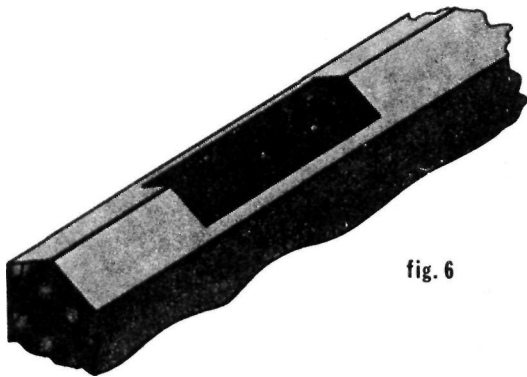

fig. 6
Step 5. Cut out the 1/16" triangular strips from the VEE'd edge on each side of the hinge web. (Fig. 6)